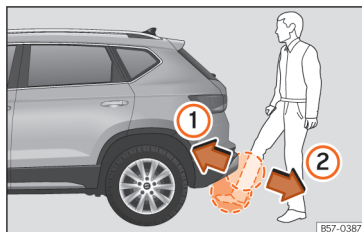

Fig. 62 Rear lid with sensor-controlled opening (Easy Open).
- With a brisk movement, bring your foot and lower leg as close as you can to the bumper. The lower part of the leg needs to be close to the upper sensor area and your foot to the lower sensor area **»» Fig. 62 ①**.
- Quickly remove your foot and lower leg from the sensor areas **»» Fig. 62 ②**. The rear lid will open automatically.